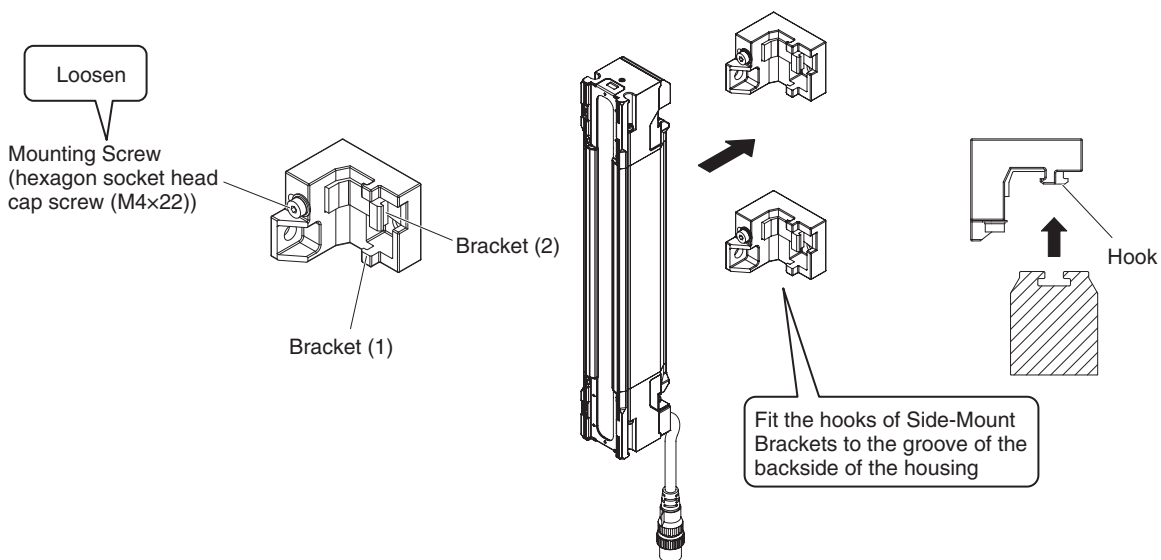

Fig. 2
2. Fully loosen the Mounting Screws (hexagon socket head cap screw (M4x22)). Fit the Brackets (1) and (2) to the backside of the sensor housing so that the groove of the backside of the housing receives the hooks of the Brackets (1) and (2). (Fig. 2)